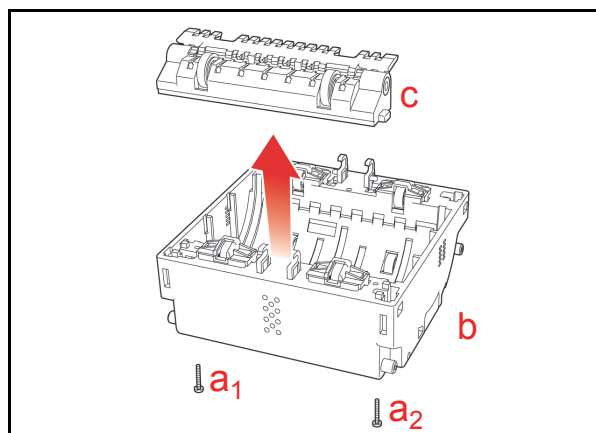

Figure 4-16 Lower Guide Assembly Removal
2. Remove the two (2) Lower Guide Mounting Screws from the Lower Base Assembly (See Figure 4-16 a₁ & a₂).
3. Remove the Lower Guide Assembly (See Figure 4-16 b).